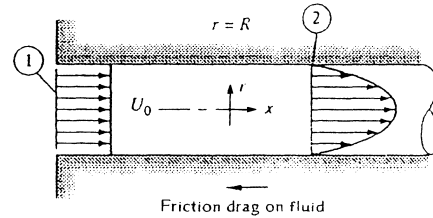

Fig. P3.53
3.53 Consider incompressible flow in the entrance of a circular tube, as in Fig. P3.53. The inlet flow is uniform, $u_1 = U_o$. The flow at section 2 is developed pipe flow. Find the wall drag force F as a function of (p_1, p_2, ρ, U_o, R) if the flow at section 2 is